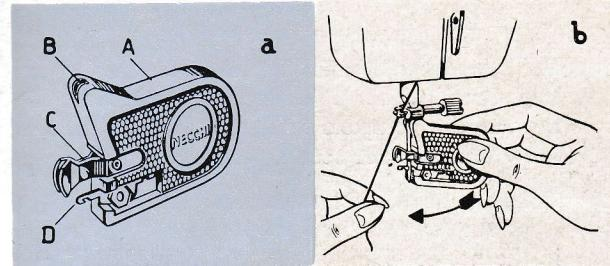

Fig. 14
- Pass the hook D of the needle threader (Fig. 14 b) through the eye of the needle.
- Using the thumb and forefinger of the left hand, bring the thread under the hook of the threader and hold it there under tension (Fig. 14 c).
- Gently move the threader upwards (see arrow Fig. 14 c) and then withdraw the threader hook, with thread attached, from the eye of the needle (Fig. 14 d).